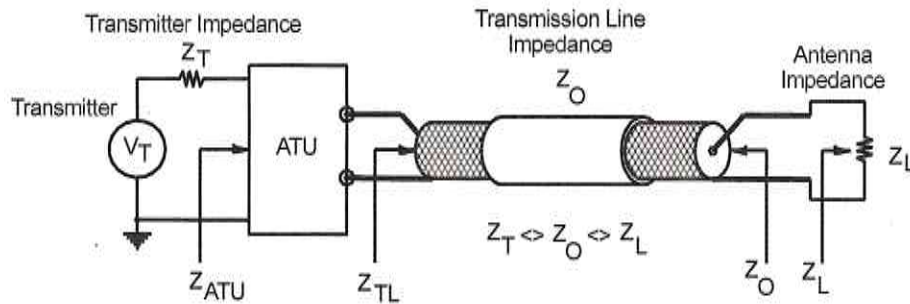

Figure 11-15. Using an ATU to match the feedline impedance to the transmitter impedance.
Figure 11-15 shows an antenna tuner unit (ATU)⁵² interposed between the transmitter and the feedline. Recall that when Z_L does not equal Z_0 , standing waves exist on the transmission line and the antenna impedance is transformed along the transmission line to become $Z_{TL} = V_0/I_0$ at the transmitter end of the coax. An ATU consists of inductors (L) and capacitors (C) arranged in a circuit to provide another impedance transformation so that the impedance seen by the transmitter, Z_{ATU} , is equal to Z_T . This allows the maximum power to be transferred to the transmission line, eliminating the losses seen in Table 11-6. It also eliminates an SWR caused overvoltage that can damage the transmitter.